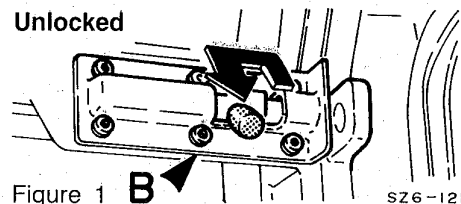

Figure 1 B SZ6-121A
1. Pull the pins of left and right locks "B" to the inside then turn them to the locked position to unlock the front window. If the lock pins are partially sticking out they may cause damage. (Refer to Figure 1.)